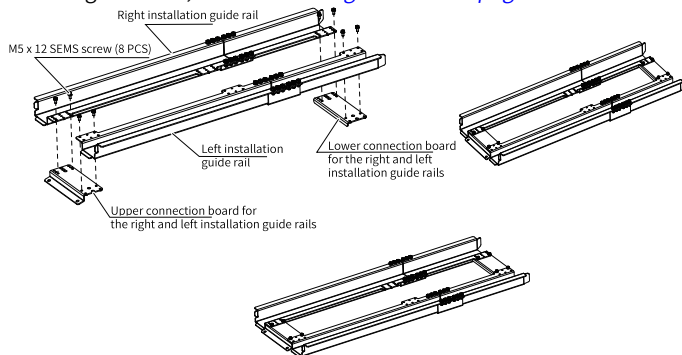

Figure 5-8 Assembling guide rails
a. Assemble the guide rails, as shown in *"Figure 5-8 " on page 68 .*